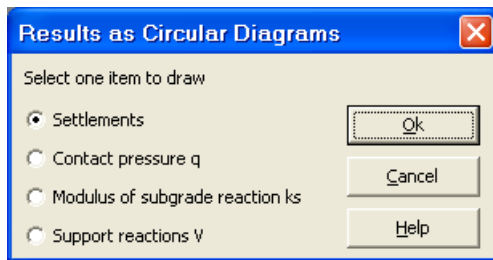

Figure 11-38 "Results as circular diagrams" option box
- Choose "Results as Circular Diagrams" command from "Graphic" menu of *ELPLA-Graphic*. The following option box in Figure 11-38 appears